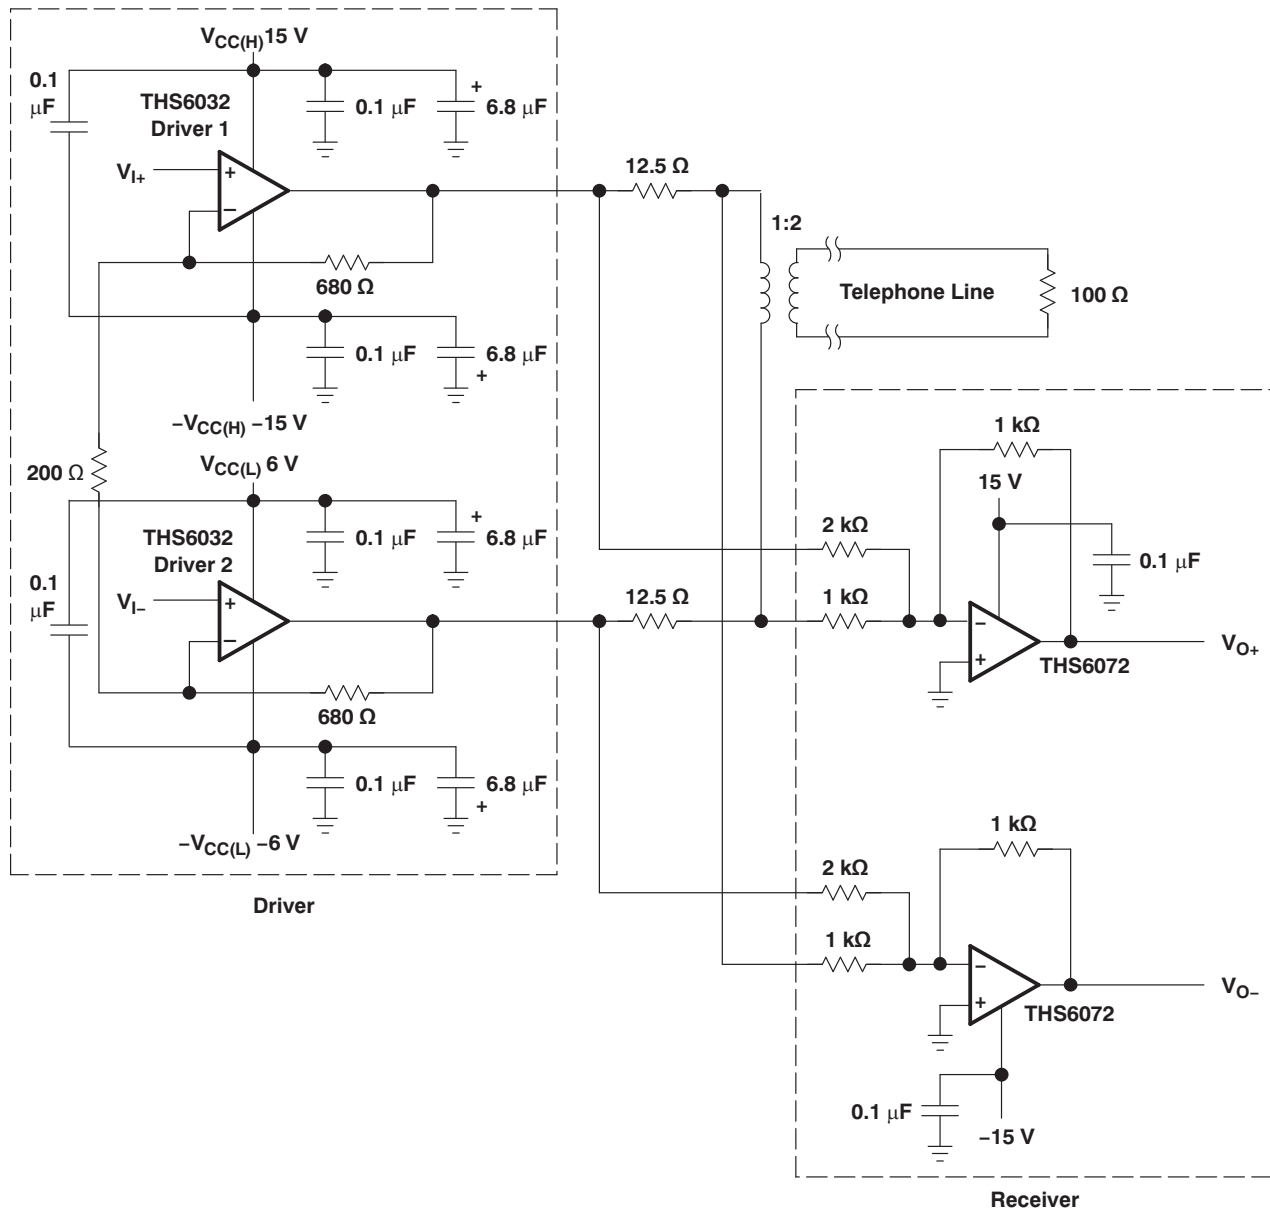

Figure 36. THS6032 ADSL Application
The THS6032 was primarily designed as a low-power line driver for ADSL (asymmetrical digital subscriber line). The driver output stage has been sized to provide full ADSL power levels of 20 dBm onto the telephone lines. Although actual driver output peak voltages and currents vary with each particular ADSL application, the THS6032 is specified for a minimum full output current of 400 mA at its full output voltage of approximately 11 V. This performance meets the demanding needs of ADSL at the central office end of the telephone line. A typical ADSL schematic is shown in Figure 36.
- Differential power supply decoupling – The THS6032 was designed to drive low-impedance differential signals. The 25- $\Omega$  load that each amplifier drives causes large amounts of current to flow from amplifier to amplifier. Power-supply decoupling for differential-currents must be provided to ensure low distortion in the THS6032. By simply connecting a 0.1- $\mu\text{F}$  ceramic capacitor from the  $+V_{CC(H)}$  pin to the  $-V_{CC(H)}$  pin, along with another 0.1- $\mu\text{F}$  ceramic capacitor from the  $+V_{CC(L)}$  pin to the  $-V_{CC(L)}$  pin, differential current loops will be minimized (see Figure 36). This will help keep the THS6032 operating at peak performance.
The THS6032 incorporates a shutdown circuit to conserve power. Traditionally, when an amplifier is placed into shutdown mode, the input and output circuitry are turned off. This conserves a large amount of power, but the output impedance will be a very high, typically greater than several k $\Omega$ . This situation does not maintain proper line termination, resulting in a severe reduction of the receive signal coming through the transmission line (see Figure 36). Figure 36).